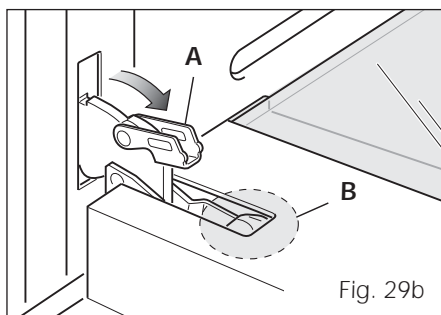

Fig. 29b
- Open the lever **A** completely on the left and right hinges (fig. 29b).